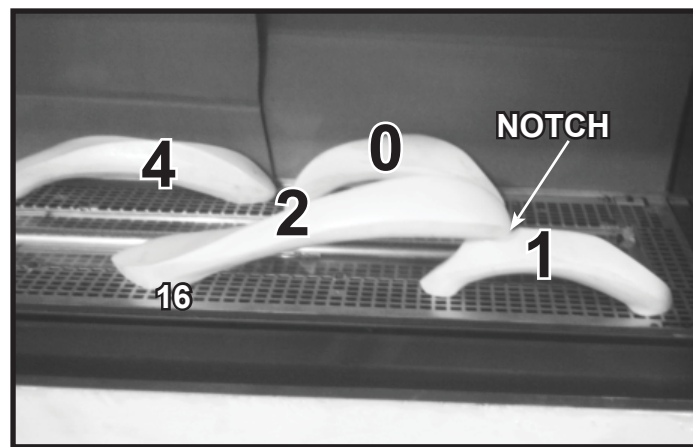

Figure 12. (SRV2310-752)
13. **(SRV2310-752):** Install the remaining Log #2. Place Log #2 with the larger end of the log onto shoulder screw #16 and the small end of the log is resting on the notch of Log #1. See Figure 12.